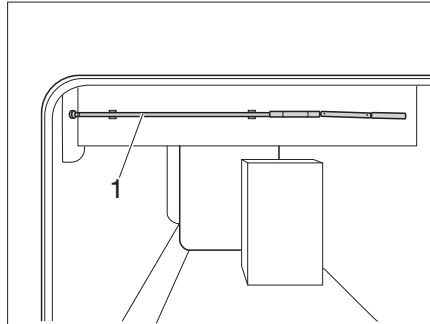

Fig. 144 Crank for height adjustment
- Remove the crank (Fig. 144,1) from the holder.